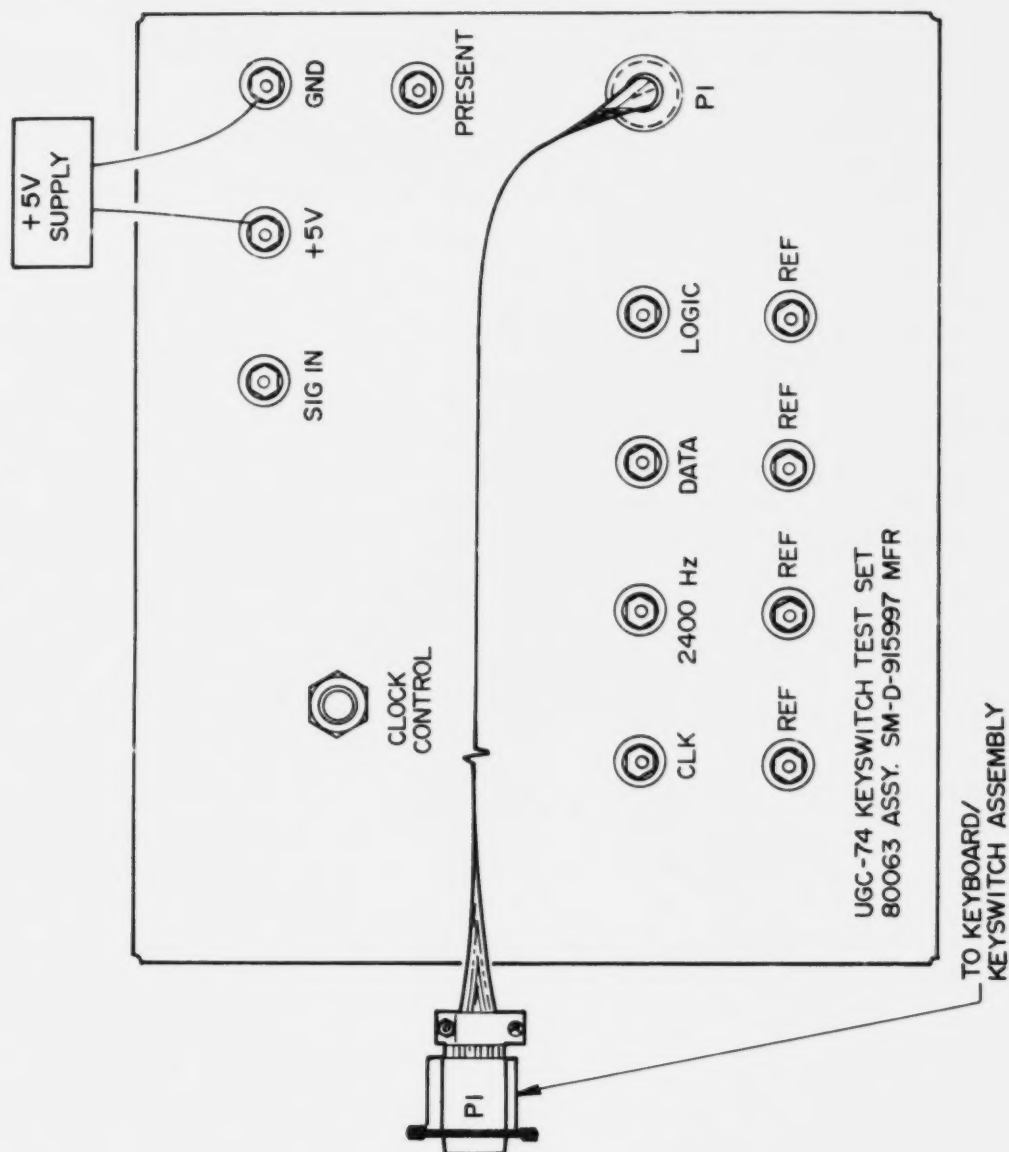

Figure 6-45. KEYBOARD ASSEMBLY TEST CONFIGURATION
G. KEYSWITCH ASSEMBLY TEST FIXTURE TEST PROCEDURES (fig. 6-45 and 6-46)
- Set up the test fixture as shown in figure 6-45 with the exception of the connection to the keyswitch assembly.